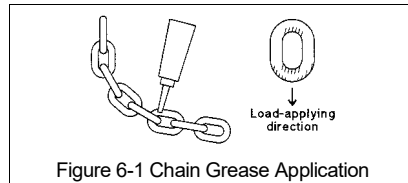

Figure 6-1 Chain Grease Application
- Apply Harrington lubricating grease (Part No. ER1BS1951) or an equivalent to industrial general lithium grease, NLGI No. 0, to the bearing surfaces of the load chain links as indicated by the shaded areas in Figure 6-1. Also apply the grease to the areas of the load chain (shaded areas in Figure 6-1) that contact the load sheave. Insure that the grease is applied to the contact areas in the load sheave pockets.